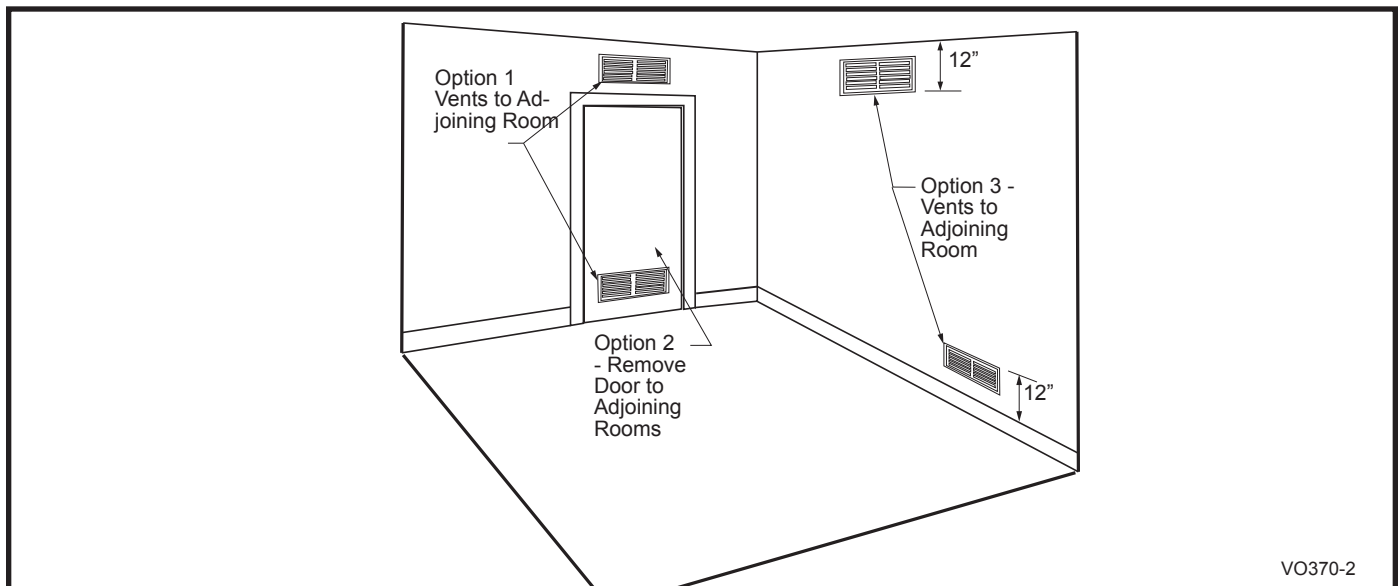

Fig. 3 Vent options to provide additional air.
**A)** Open up or provide at least two ventilating grilles to an adjoining unconfined space. Use any of the options illustrated in Figure 3.